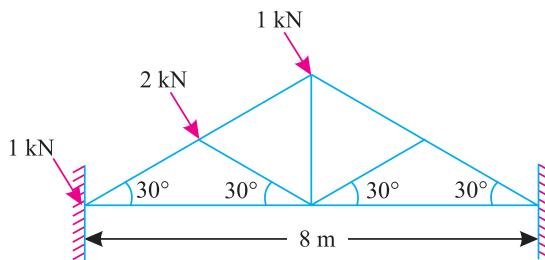

Fig. 14.51.
**Example 14.21.** Figure 14.51 shows a roof truss with both ends fixed. The truss is subjected to wind loads normal to the main rafter.